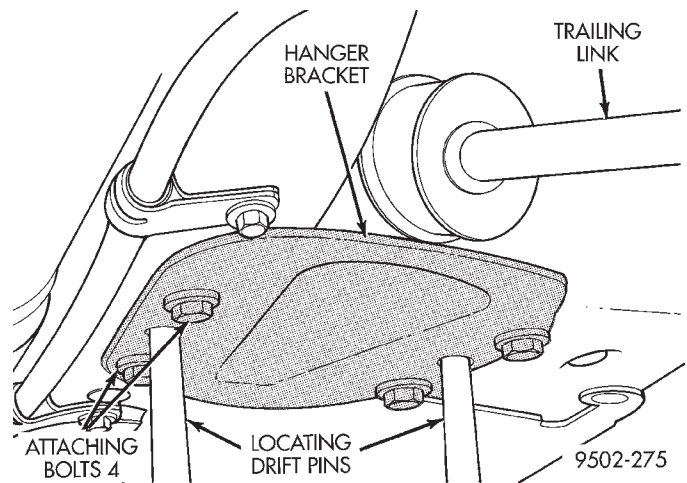

Fig. 39 Trailing Link Hanger Bracket Installation
(4) Install trailing link hanger bracket on vehicle and loosely install the 4 attaching bolts (Fig. 39). Then install 2 drift pins of appropriate size in positioning holes on hanger bracket and into locating holes in body (Fig. 39). With hanger bracket correctly positioned on vehicle tighten the 4 hanger bracket mounting bolts to a torque of 28 N·m (250 in. lbs.).